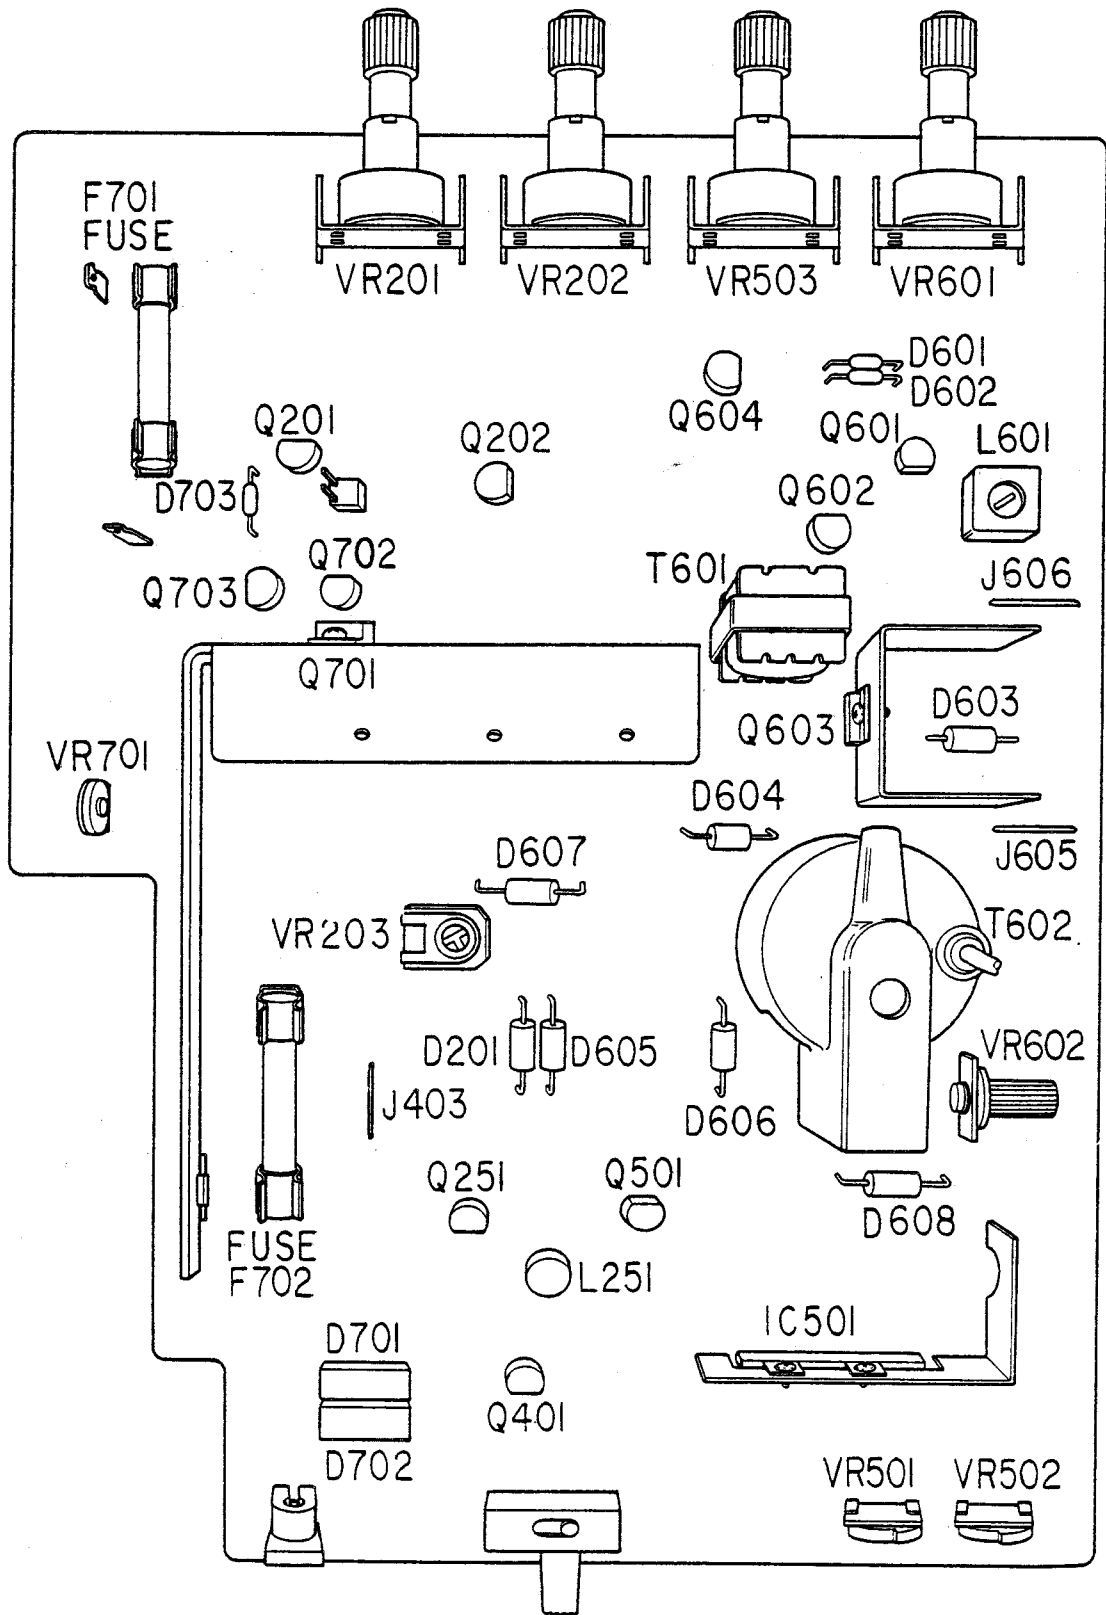

Fig. 3
2. If picture is still too wide, cut the link J606. (See Fig. 3)